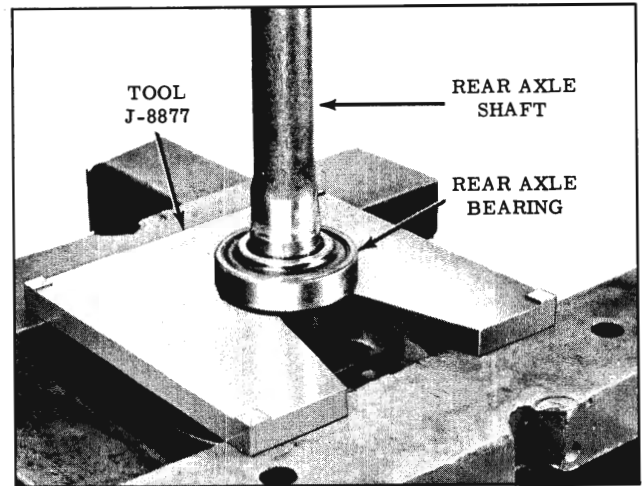

Fig. 6-134 Removing Axle Bearing
2. With Tool J-8877 press bearing off shaft. (Fig. 6-134)